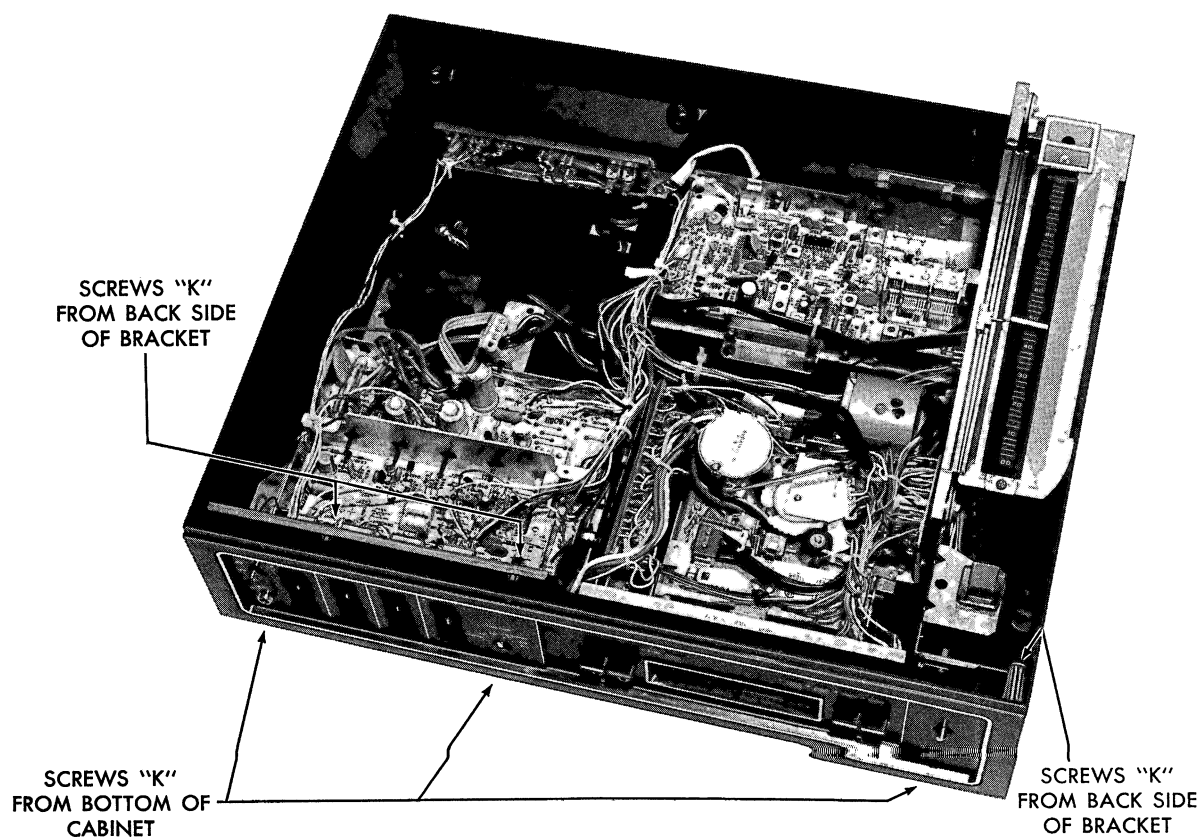

FIGURE 30 – ESCUTCHEON REMOVAL
ESCUTCHEON REMOVAL (See Figure 30)
3. Remove six (6) screws ("K" in Figure 30) including three (3) from back side of bracket.